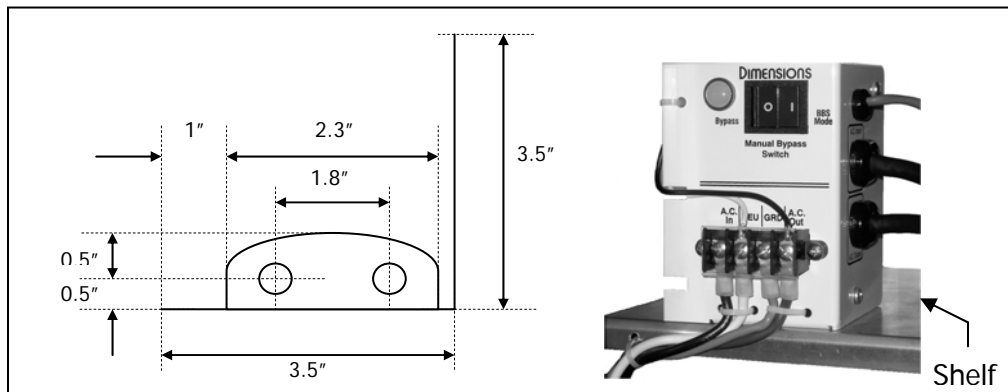

FIGURE 5: CMBPS-30ATR open frame shelf mounting and footprints
- b) Using the washers and bolts provided fix the combined manual bypass switch - 30A transfer relay as shown on Figures 5 below.